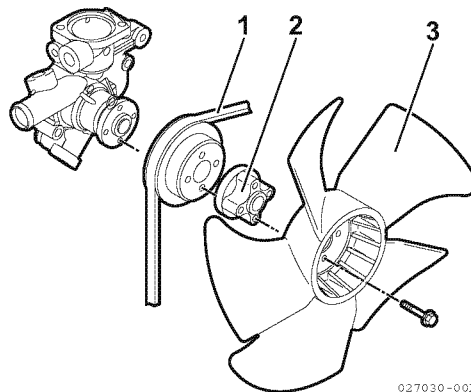

Figure 9-14
1. Remove the coolant fan guard (if equipped), cooling fan (3, **Figure 9-14**), spacer (2, **Figure 9-14**), coolant pump V-pulley (1, **Figure 9-14**) and V-belt.